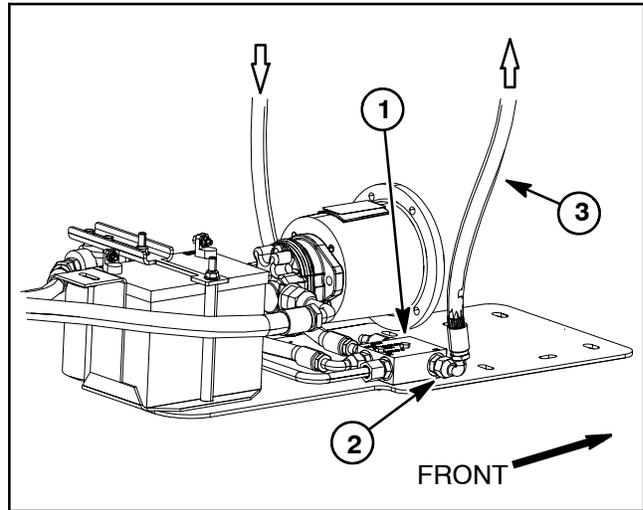

Figure 3
3. Thoroughly clean junction of hydraulic supply hose and relief valve manifold fitting on right side of manifold (Fig. 3). Disconnect supply hose from manifold fitting.